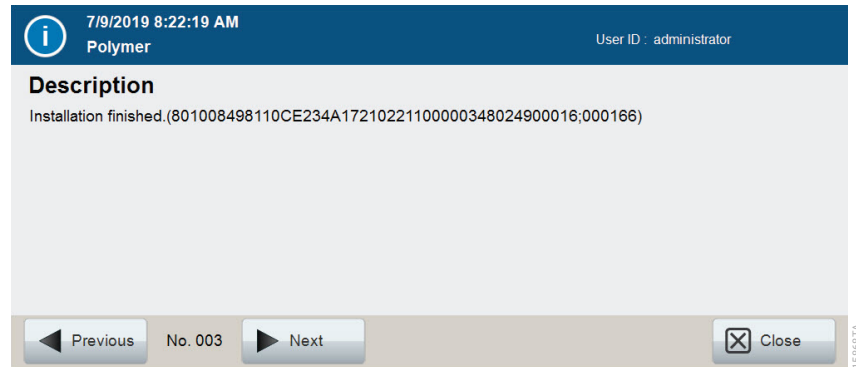

Figure 114. 'Consumables Detail' screen.
3. Select a specific Consumables Log in the list followed by **Details** (becomes active after selecting a Consumables Log) at the bottom of the screen to review the details of that specific log (Figure 114).